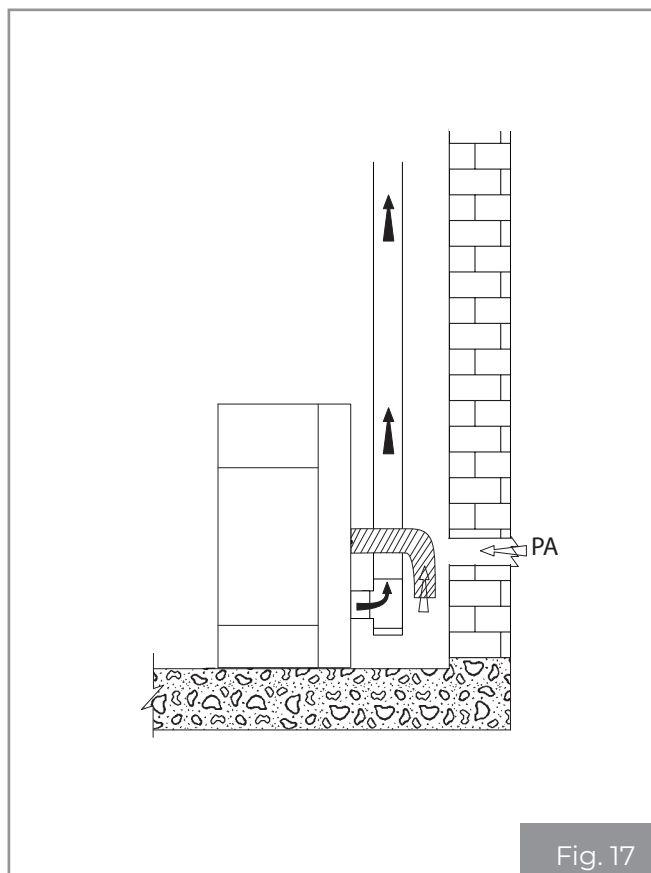

Fig. 17
- it can come from the installation room or from suitable adjacent rooms (**Fig. 17**).